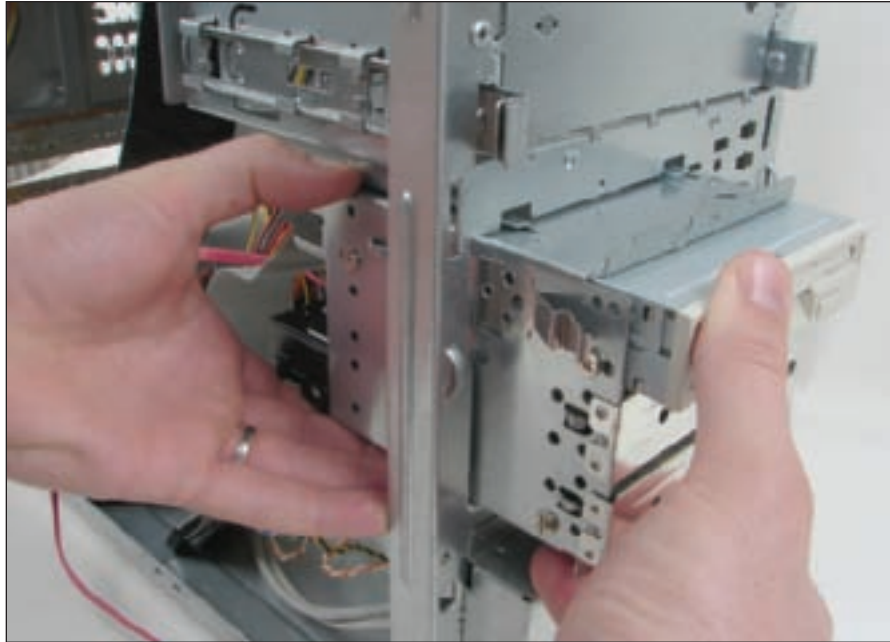

Figure 8-42 Slide the bay into the case as far as it will go
4. The next step is to place the bay back into position and secure the bay with the bay screw or screws (see Figure 8-41). Note that some bays are secured with clips. For example, for the bay shown in Figure 8-42, when you slide the bay into the case, you will hear the clipping mechanism pop into place when the bay is all the way in.